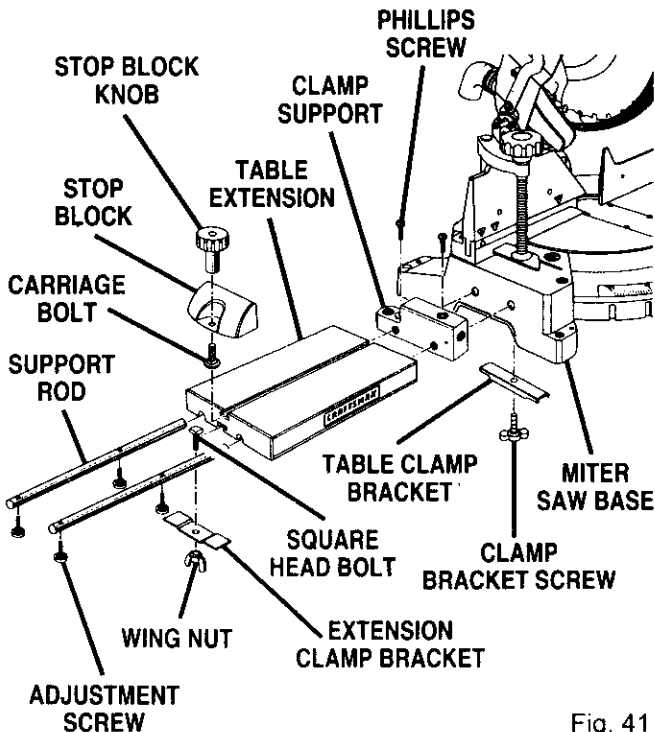

Fig. 41
See Figures 41, 42, and 43.
- Thread adjustment screws into support rods as shown in figure 41.
See Figures 41 and 45.
- Thread the stop block knob onto the carriage bolt to secure the stop block to the table extension. See Figure 41.